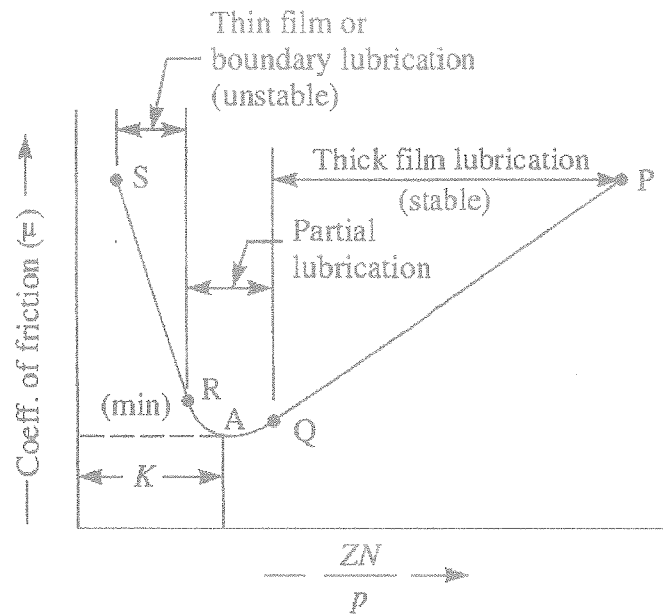

Figure Q4
- ii) Explain the significance of rotation speed on the journal bearing performance-with the aid of Figure Q4. Why is it not advisable to design the bearing to run at minimum friction coefficient point "A"? [3Marks]